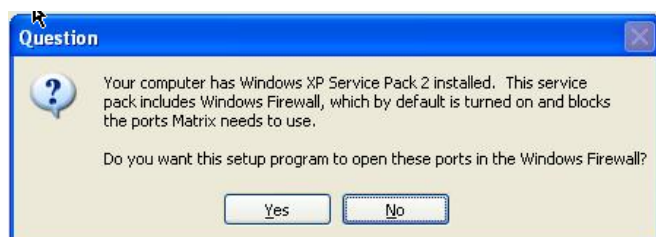

FIG. 16 Setup Path 1 - Firewall Question
9. Setup checks for Windows XP Service Pack 2 installation. If Service Pack 2 is present, the pop-up shown in FIG. 16 appears. Choose **Yes** or **No** to continue.